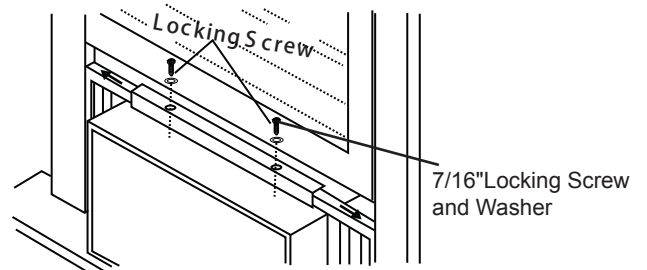

Fig. 17
2. Extend panels to fill window opening completely. Tighten locking screws on top (Fig. 17).